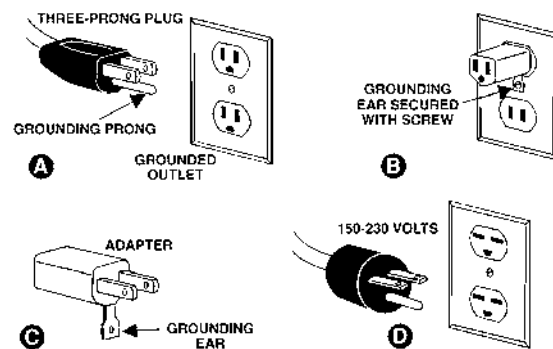

Figure 1
This tool is intended for use on a circuit that has an outlet that looks like the one illustrated in Figure 1(A). The tool has a grounding plug that looks like the plug illustrated in (A).
A temporary adapter, which looks like the adapter illustrated in Figure 1(B&C), may be used to connect this plug to a 2-pole receptacle as shown in (B) if a properly grounded outlet is not available. The temporary adapter should be used only until a properly grounded outlet can be installed by a qualified electrician. (*This adaptor is not applicable in Canada.*)
This cord is intended for use on a circuit that has an outlet that looks like the one illustrated in Figure 1(D). The tool has a grounding plug that looks like the plug illustrated in (D). Make sure the tool is connected to an outlet having the same configuration as the plug. No adapter is available or should be used with this tool. If the tool must be reconnected for use on a different type of electric circuit, the reconnection should be made by qualified service personnel and after reconnection, the tool should comply with all local codes and ordinances.